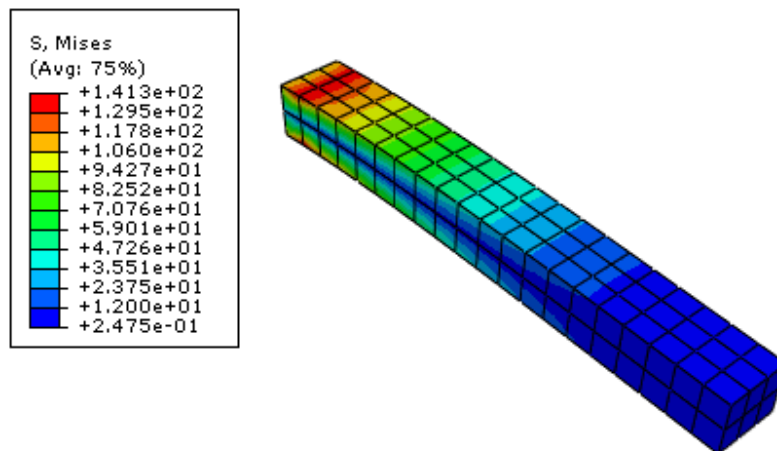

Figure W1-17 Mises stress contour plot.
- In the toolbox, click  (or select **Plot**→**Contours**→**on Deformed Shape** from the main menu bar) to view a contour plot of the von Mises stress, as shown in Figure W1-17. In this figure, the font size for the legend text has been increased to 10 (**Viewport**→**Viewport Annotation Options**).